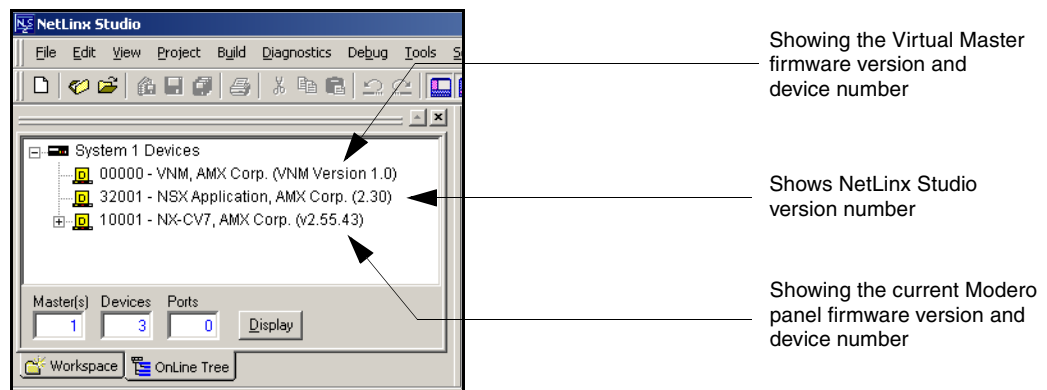

FIG. 57 NetLinx Workspace window (showing the panel connection via a Virtual NetLinx Master)
3. After the Communication Verification dialog window verifies active communication between the Virtual Master and the panel, click the **OnLine Tree** tab in the Workspace window (FIG. 57) to view the devices on the Virtual System. *The default System value is one.*
4. Right-click on the System entry (FIG. 57) and select **Refresh System** to re-populate the list. Verify the panel appears in the **OnLine Tree** tab of the Workspace window. *The default Modero panel value is 10001.*